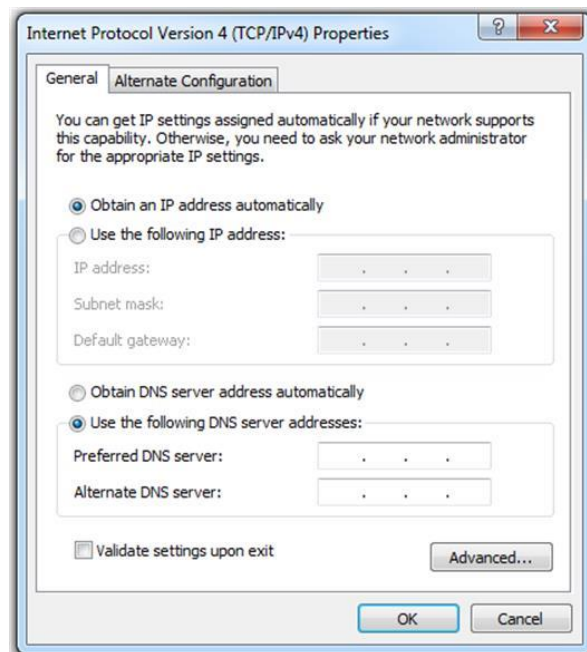

Figure 3-6 Windows Network Connections IPv4 properties page - DHCP
Step 7: To set the unit to DHCP mode, select the "Obtain an IP address automatically" option. See Figure 3-6.